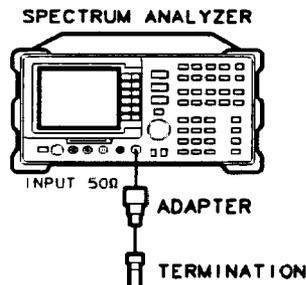

Figure 4-24. Residual Response Test Setup
1. Connect the 50Ω Termination to the analyzer as shown in Figure 4-24.